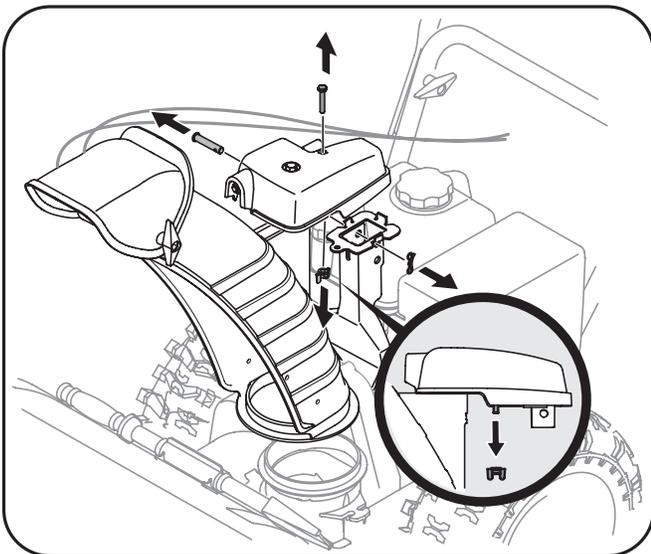

Figure 3-5
- Remove wing nut and hex screw from chute control assembly and clevis pin and cotter pin from chute support bracket. See Fig. 3-5. Position the chute assembly (forward-facing) over the chute base.